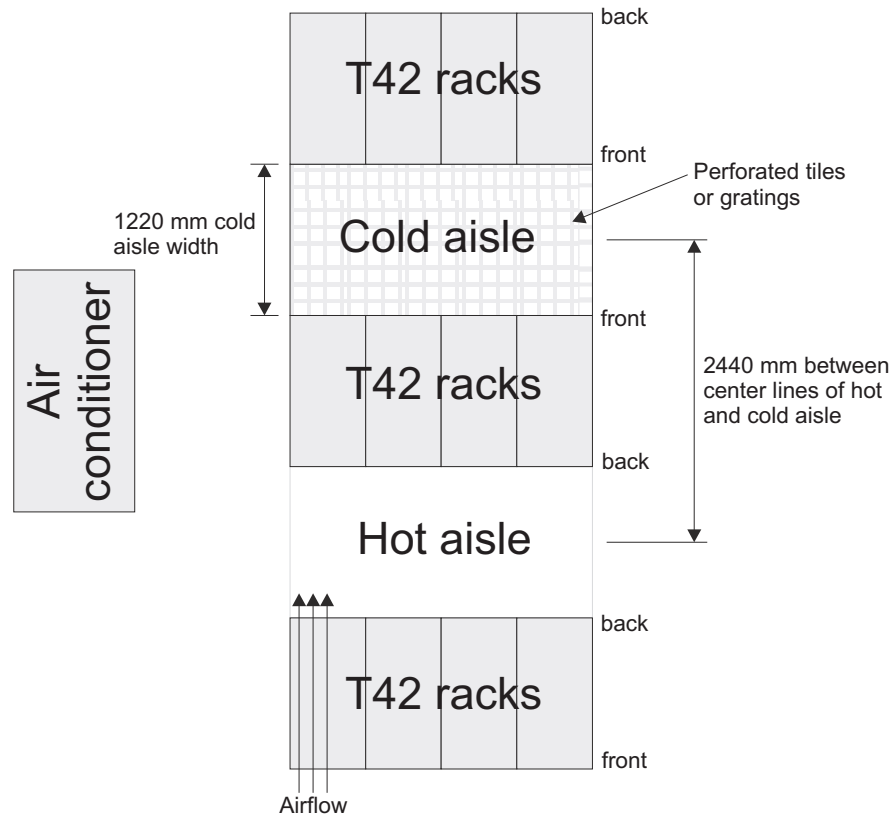

Figure 15. Example of cold aisle/hot aisle rack configuration
- Air enters at the front of the rack and leaves at the back. To prevent the air that is leaving the rack from entering the intake of another piece of equipment, you must position the racks in alternate rows, back-to-back, and front-to-front. This arrangement is known as *cold aisle and hot aisle* and is shown in Figure 15 on page 26.